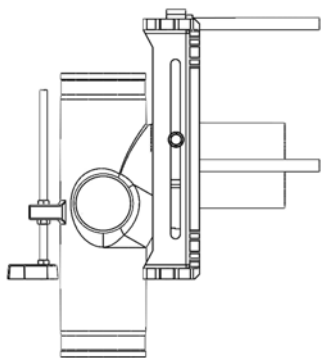

Figure 4
4. Assemble anchor foot support. Anchor all feet to floor (recommend 1/2" bolts). See Figure 4.